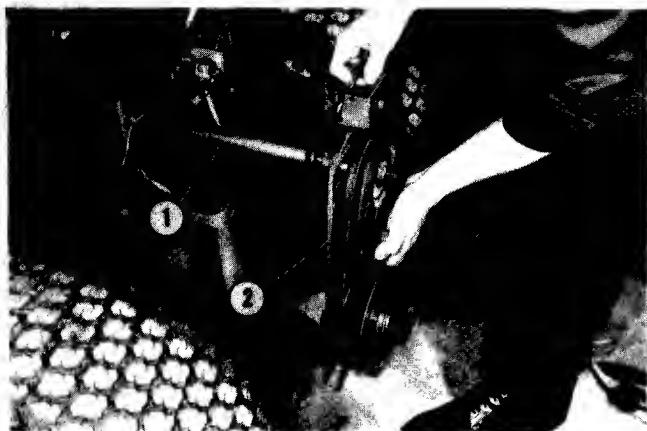

FIG. 4.34-PULLING REAR PTO
9. If tractor is equipped with PTO refer to Fig. 4.34 and proceed as follows:
6. If equipped install PTO and align coupler between engine and shaft. Fig. 4.34.